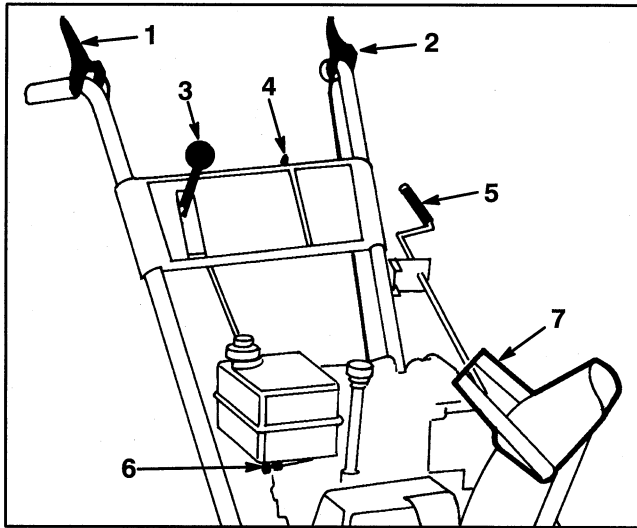
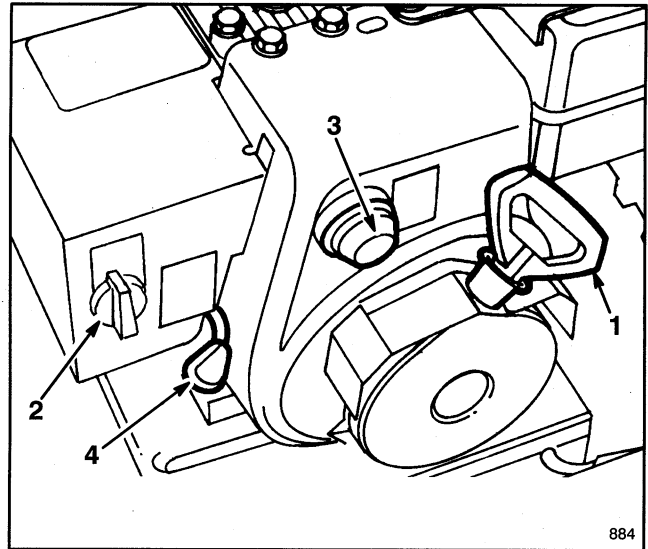
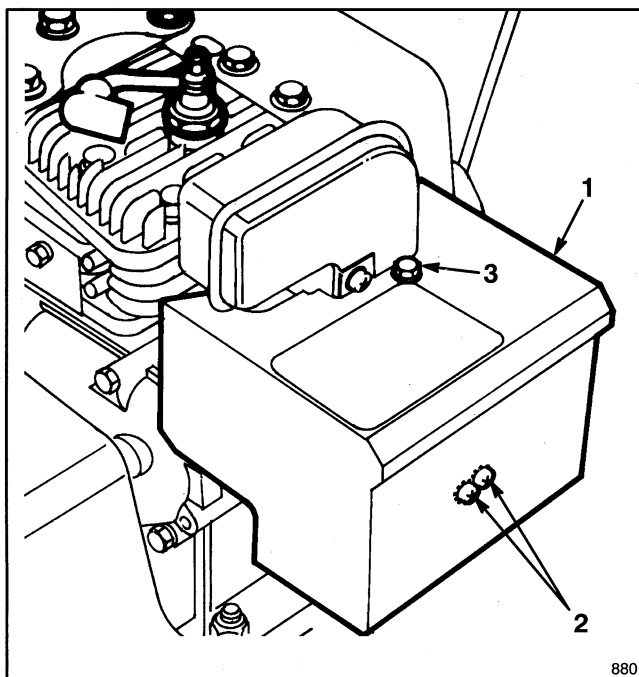

Figure 14
Figure 15
Figure 16
**Auger Drive Control** (Fig. 14)—Control has two positions: ENGAGE and DISENGAGE. To engage both auger and impeller, compress lever against right handgrip. To disengage, release lever.
**Traction Control** (Fig. 14)—To engage traction (wheel drive), lever must be compressed against left handgrip. To stop traction, release lever.
**Speed Selector** (Fig. 14)—The control has four positions: reverse, 1, 2 and 3. To change speeds, move gear shift to position desired. Lever will lock in notch at each speed selection. Use positions 1, 2 or 3 depending on snow conditions.
**Ignition Switch** (Fig. 14)—Switch has two positions: ON and OFF. Rotate key to ON position before starting engine with the recoil starter. To stop engine, rotate key to OFF.
**Throttle** (Fig. 15)—Moving the throttle upward increases engine speed.
**Choke** (Fig. 15)—Rotate choke to FULL choke position to start a cold engine. As engine warms up, move choke gradually to OFF.
**Primer** (Fig. 15)—Press primer to pump a small amount of gasoline into engine for improved cold weather starting.
**Fuel Shut-Off Valve** (Fig. 14)—Valve is located under fuel tank. Close valve to stop fuel flow from fuel tank and open valve to allow fuel to flow to the carburetor. Close valve when snowthrower is not in use.
**Discharge Chute Control** (Fig. 14)—Rotate discharge chute control clockwise to move discharge chute to the left and counterclockwise to move chute to the right.
**Recoil Starter** (Fig. 15)—Recoil starter is on back side of engine. Pull recoil starter to start engine.
**Chute Deflector Handle** (Fig. 14)—Deflector handle is on top of discharge chute, and it is used to control height of the snow stream.
**Note:** If engine is operated when temperature is +40°F (4°C) or higher, remove carburetor heater box (Fig. 16). However, the heater box must be reinstalled when temperature falls below +40°F (4°C). To remove heater box:
- A. Remove (2) Phillips screws and (1) hex head screw securing heater box in place (Fig. 16). Pull choke knob off choke rod (Fig. 15).
1. Move throttle (Fig. 15) to FAST.
2. Open fuel shut-off valve below fuel tank (Fig. 14).
3. Rotate choke (Fig. 15) to full choke position.
4. Rotate ignition key (Fig. 14) to ON.
6. Grasp recoil starter handle (Fig. 15) and pull it out slowly until positive engagement results; then pull vigorously to start the engine. Keep firm grip on starter handle and return the rope slowly.
7. After engine starts, immediately rotate choke (Fig. 15) to 3/4 position. As engine warms up, rotate choke to 1/2 position; then to OFF position. If engine falters, return choke to 1/2 position. When engine warms sufficiently, rotate choke to OFF position.
1. Release traction and auger drive controls (Fig. 14).
2. Move throttle (Fig. 15) to slow and rotate ignition key (Fig. 14) to OFF.